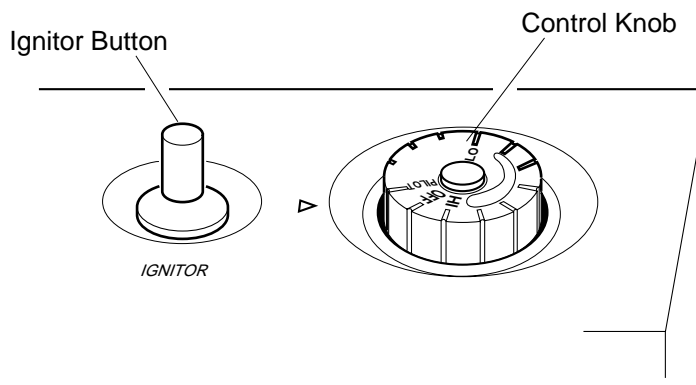

Figure 28 - Control Knob In The OFF Position
4. Wait five (5) minutes to clear out any gas. Then smell for gas, including near the floor. If you smell gas, STOP! Follow “B” in the safety information at the top of page 23. If you don’t smell gas, go to the next step.
5. Turn control knob counterclockwise ↶ to the PILOT position. Press in control knob for five (5) seconds (see Figure 28, page 23).